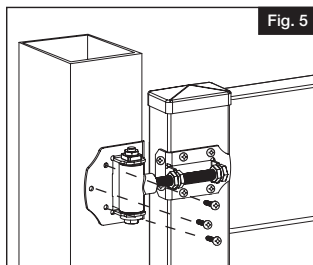

Fig. 5
Set the gate level to the post and mark pilot holes on the gate post. The slotted screw holes on the inside of the post attachment allow for vertical adjustment. It is recommended to pre-drill and install the inside screws before installing the front screws. (6) #2 square/phillips combo screws per hinge (3 on front of hinge and 3 on side) (Fig. 5 & 6).